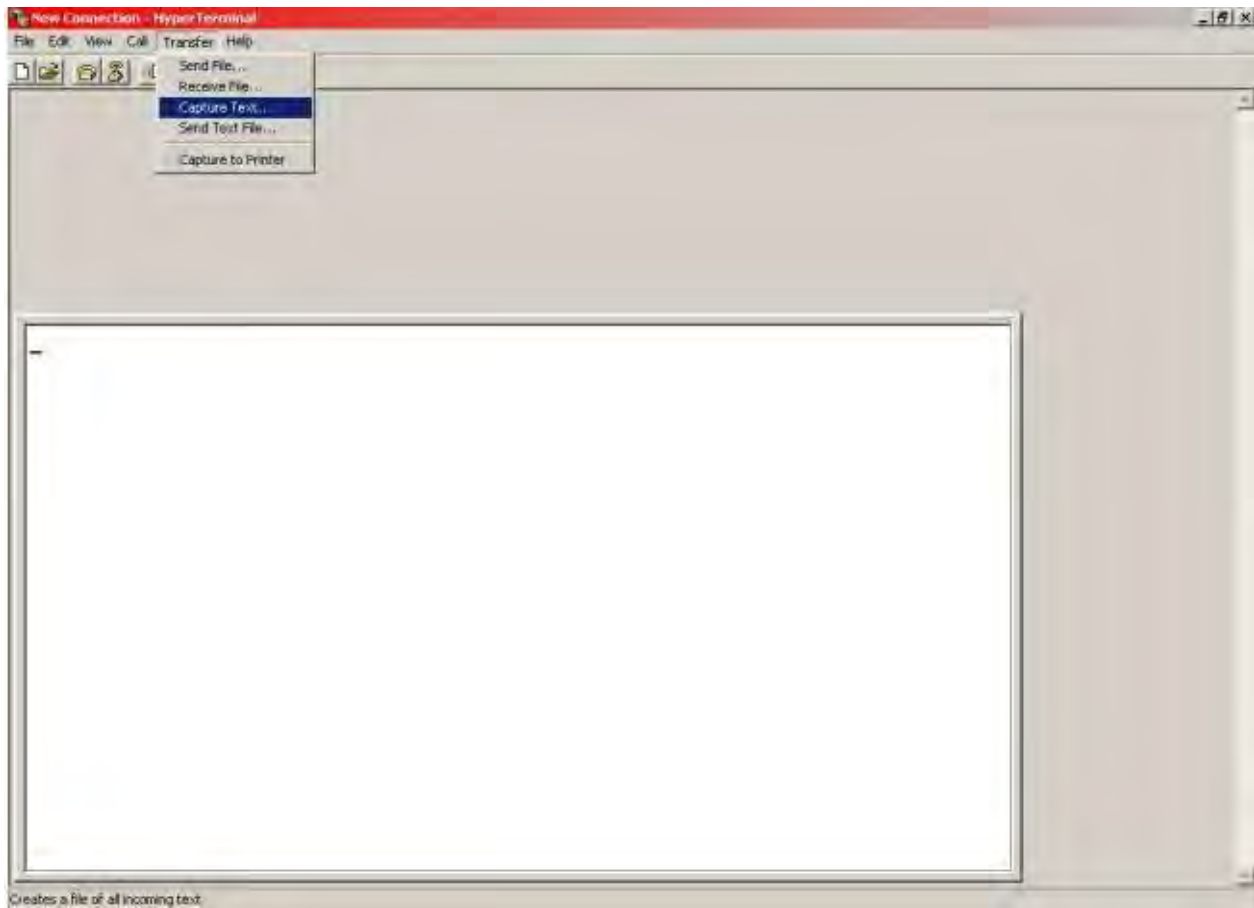

**Figure 10-6 Capture Text Feature**
3. Display the error log by typing **ShowErrorLog**. Using the Hyper Terminal, save the error log to a file by selecting **Capture Text..** from the **Transfer** drop-down menu (Figure 10-6). The **Capture** feature in the menu bar at the bottom of the screen darkens to show text is captured.